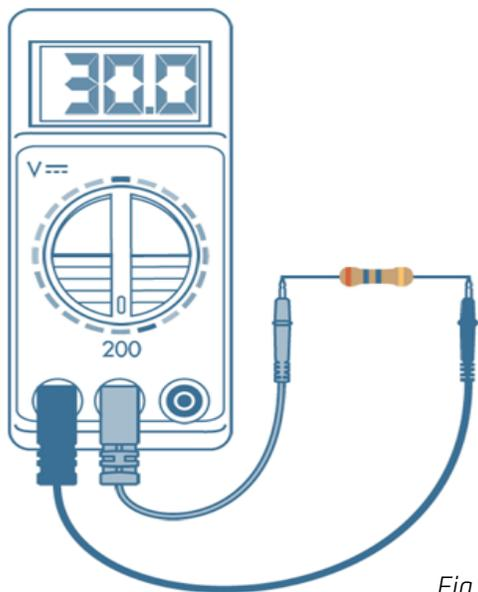

Fig. 2
- Resistor: What is the value of the resistor you used? KidWind kits come with 30, 50, 100 ohm resistors but you can check using a multimeter (see Figure 2).